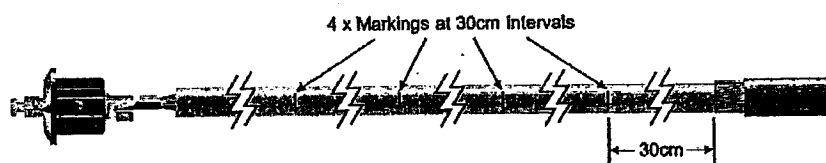

Figure 27.
7. Use a marker or pen to mark 30cm intervals on the White XLPE Insulation between the end of the Outer Copper Screen Wires and the Crimp - this will act as a guide to wrapping the semi-conductive tape towards the Crimp in a coarse spiral. (Figure 27)